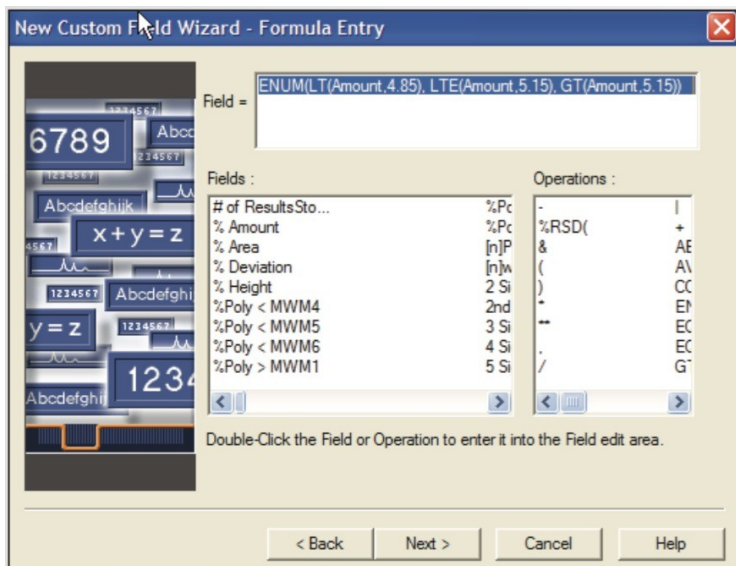

Figure 1. Formula Entry window.
6. Select Data Source: Calculated, Sample Type: Unknown, Peak Type: Group Only, then click Next to open Formula Entry window (Figure 1).